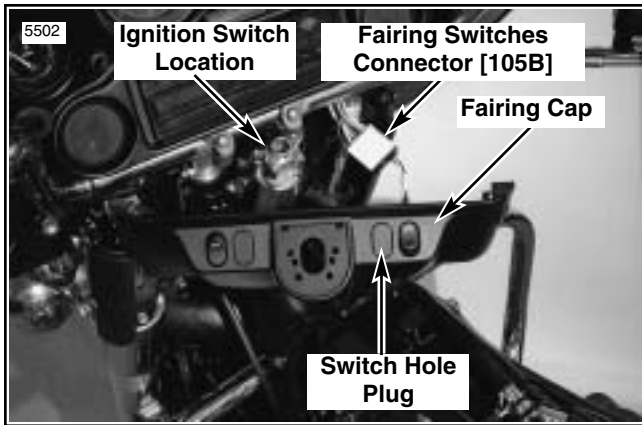

Figure 6. On / Off Switch Location, 1996 and Later
1. See Figure 6. Remove ignition switch and fairing cap according to Service Manual instructions.